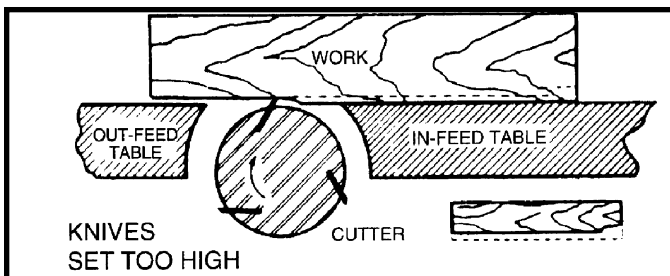

Fig. 28
8. If the knives are set too high, the work will be gouged, curved, or bowed at the end of the cut, as shown in Fig. 28.